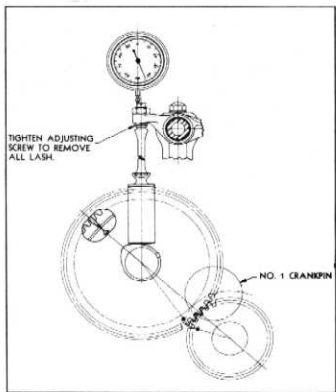

Fig. 8—Checking Valve Timing
6. Set the indicator at $.044''$ (fig. 8).